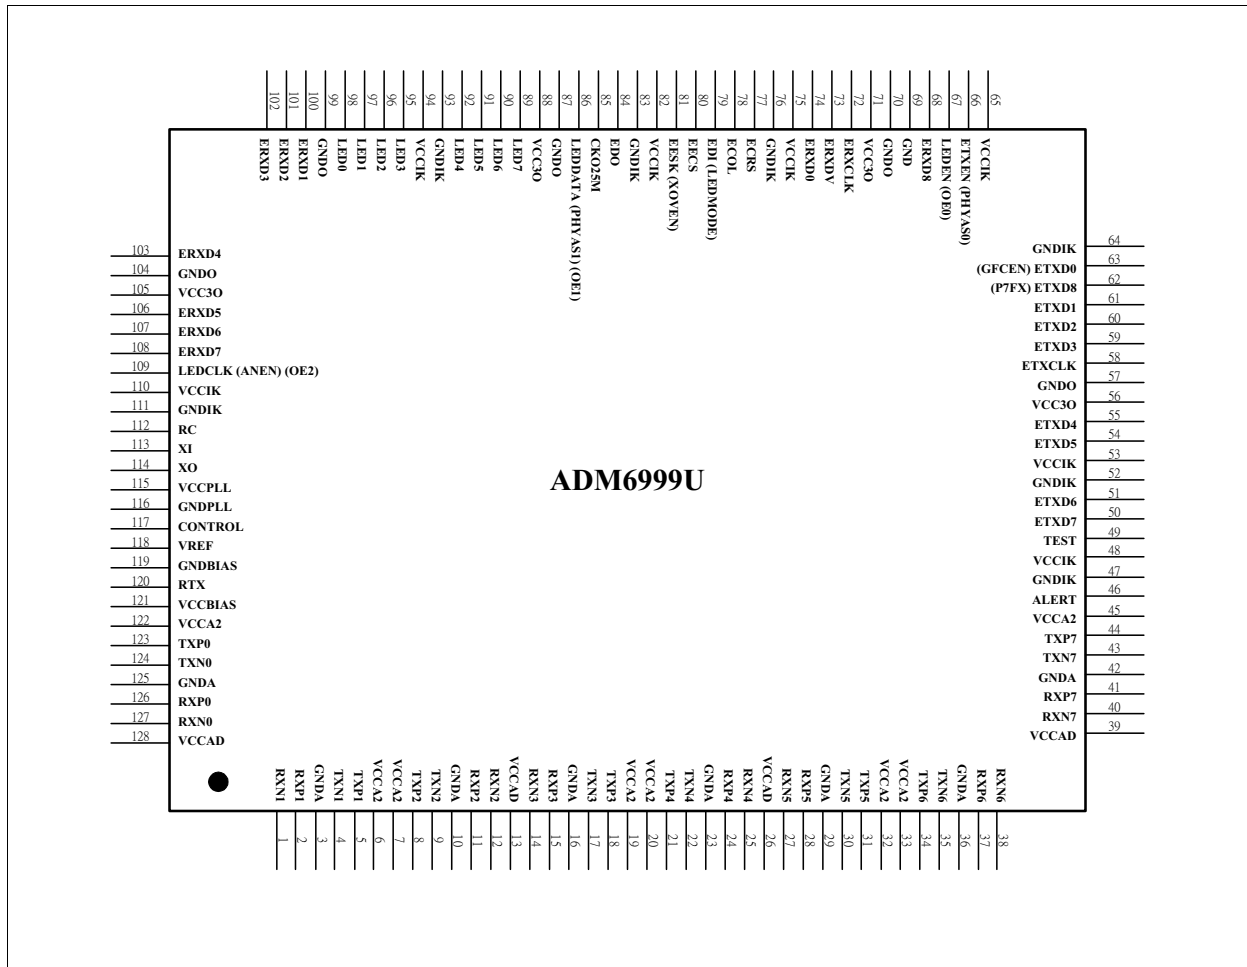

Figure 2 ADM6999U/UX 128 Pin Diagram
- Figure 2 ADM6999U/UX 128 Pin Diagram 10